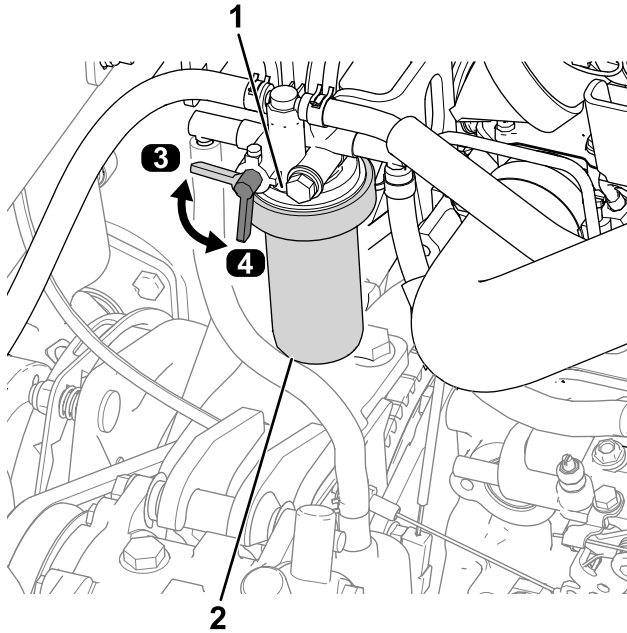

Figure 59
1. Rotate the fuel-valve lever to the OFF position (Figure 59).
2. Clean the area around the fuel-filter head (Figure 59).
3. Remove the filter and clean the filter head mounting surface (Figure 59).
6. Rotate the fuel-valve lever to the ON position (Figure 59).